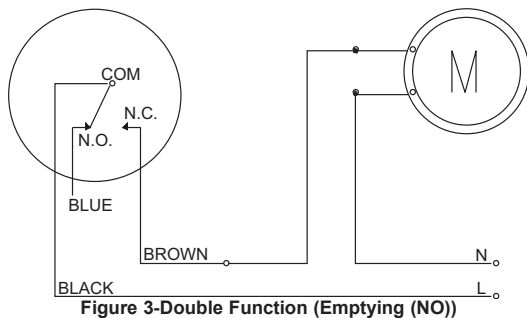

Figure 3-Double Function (Emptying (NO))
SPDT, single pole double throw allows for operation of both increasing and decreasing level, depending on the connections made between the terminals of the micro-switch and the cable. SPDT, a three-conductor cable (without ground option), has one lead that is common, one that is normally open (NO), and the other that is normally closed (NC), for the proper connections of these conductors please refer to the wiring diagrams in Figures 3 and 4.